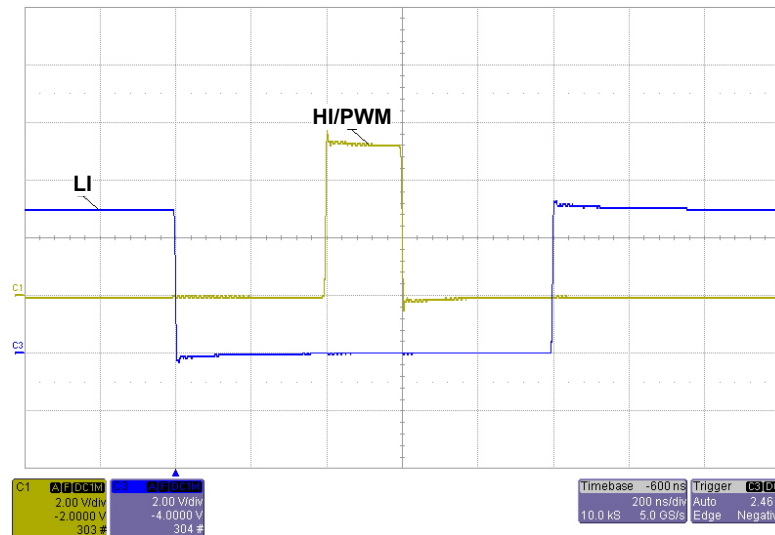

Figure 7. HI/PWM and LI Signals
- (9) Slowly rotate the potentiometer,  $R_1$ , to the right (CW) until the waveforms shown in Figure 7 appear.